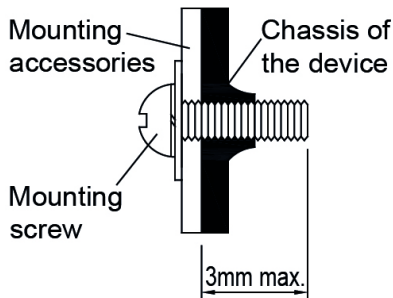

Fig. 4 Mounting Screw
- **For PMT and PML Series (Refer to Fig. 4):** Only use M3 screw  $\leq 3$  mm (0.12 inch) through the base mounting holes. This is to keep a safe distance between the screw and internal components. Recommended mounting tightening torque: 4~7 Kgf.cm (3.47~6.08 lbf.in).